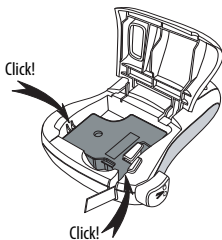

Figure 5
3. Press firmly until cassette clicks into place. See Figure 5.